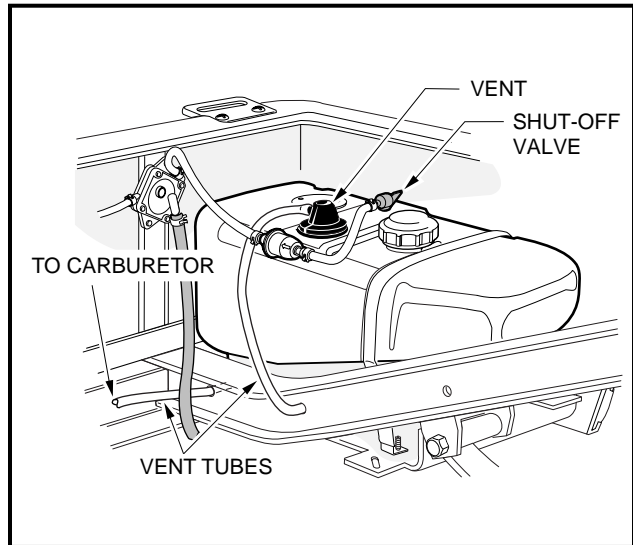

Figure 17 Gasoline Tank
- **IF THE VEHICLE HAS AN ALL-WEATHER ENCLOSURE INSTALLED, THE GAS TANK MUST BE PROPERLY VENTED AS SHOWN (SEE FIGURE 17, PAGE 18).**